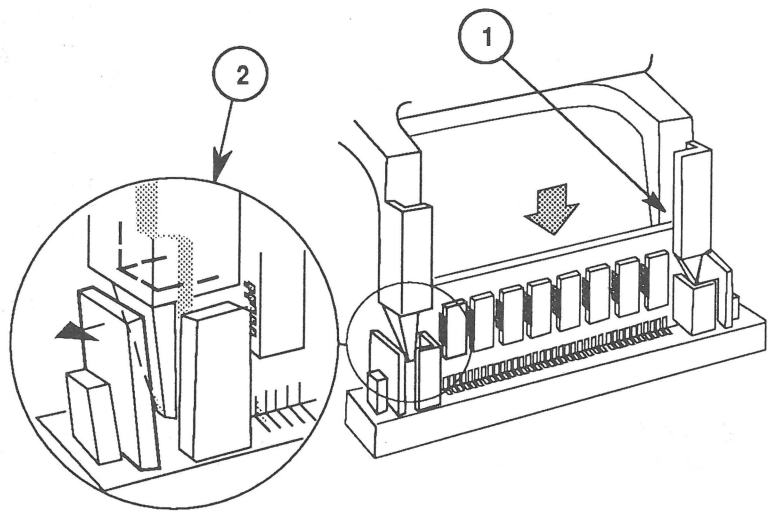

FIGURE 2
1. Place the grooved ends of the tool over the edges of the SIMM (Figure 2, #1). Make sure the tool faces the same way as in the figure (chips facing out).
2. Gently press the tool down onto the board. The edges of the tool should push the plastic holders slightly to the side (Figure 2, #2).